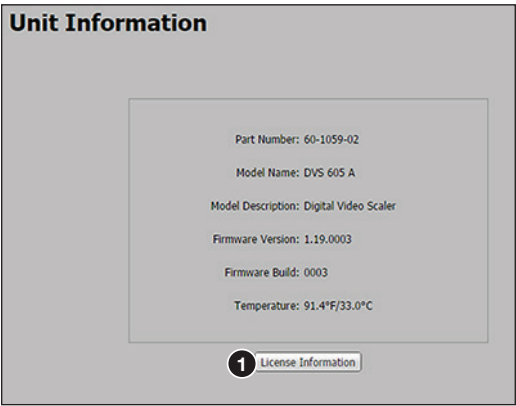

Figure 86. Unit Information Page
To view details about third-party packages and associated licensing, click the **License Information** button (see figure 86, ❶). The DVS 605 License Information dialog box (shown at right) opens (see Licensed Third-Party Software Used in the DVS 605 on page 2 for a list of the software used).